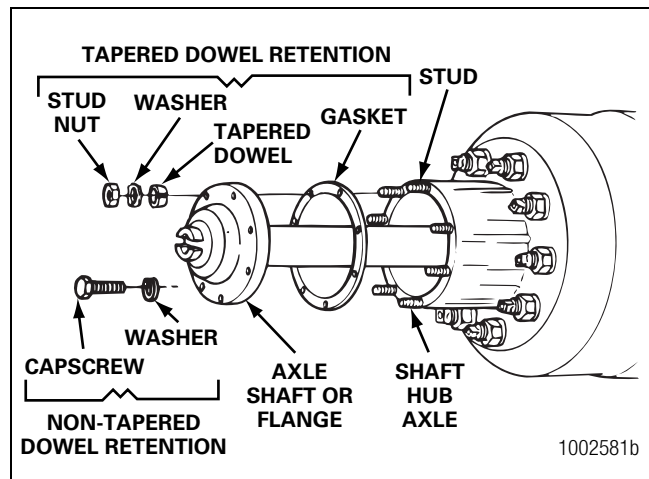

Figure 5.79
12. Install the gaskets and axle shafts into the axle housing and carrier. The gasket and flange of the axle shafts must fit flat against the wheel hub. Figure 5.79.
3. Install the gasket and the axle shaft into the housing. The gasket and the flange of the axle shaft must fit flat against the wheel hub. Figure 5.79.